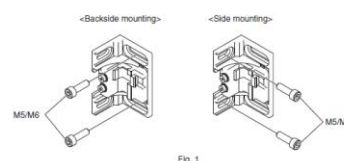

Fig. 1
1. Securely tighten the screws to fix the Adjustable Side-Mount Bracket to the mounting position of the wall surface. When using more than one Adjustable Side-Mount Brackets, align them in the same line using the sides of the brackets that do not face the wall, before attaching the bracket to the sensor. (Fig. 1)